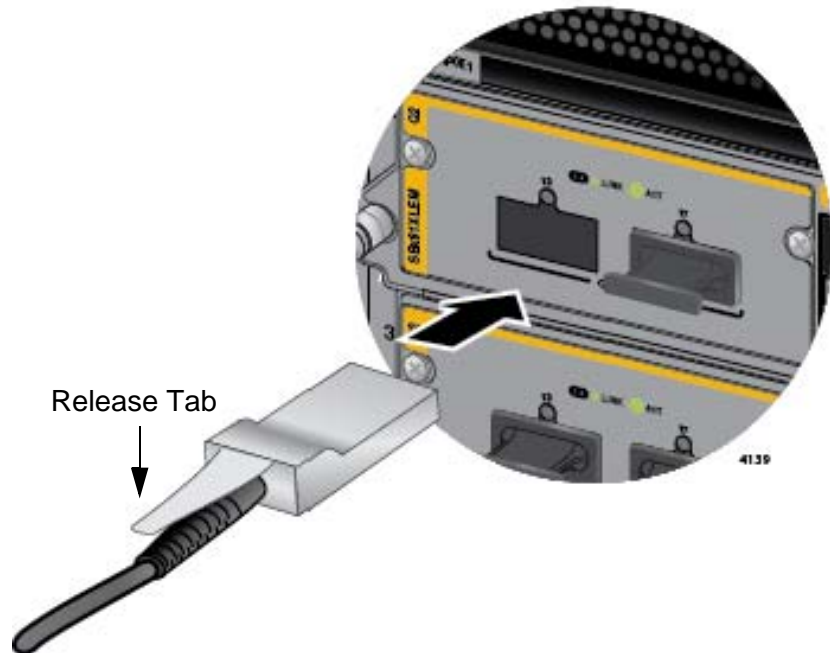

Figure 108. Sliding the AT-QSFPCU Cable into the Slot
2. Orient the connector on the AT-QSFPCU Cable with the release tab on top and slide it into the slot until it clicks into place. Refer to Figure 108 on page 181.